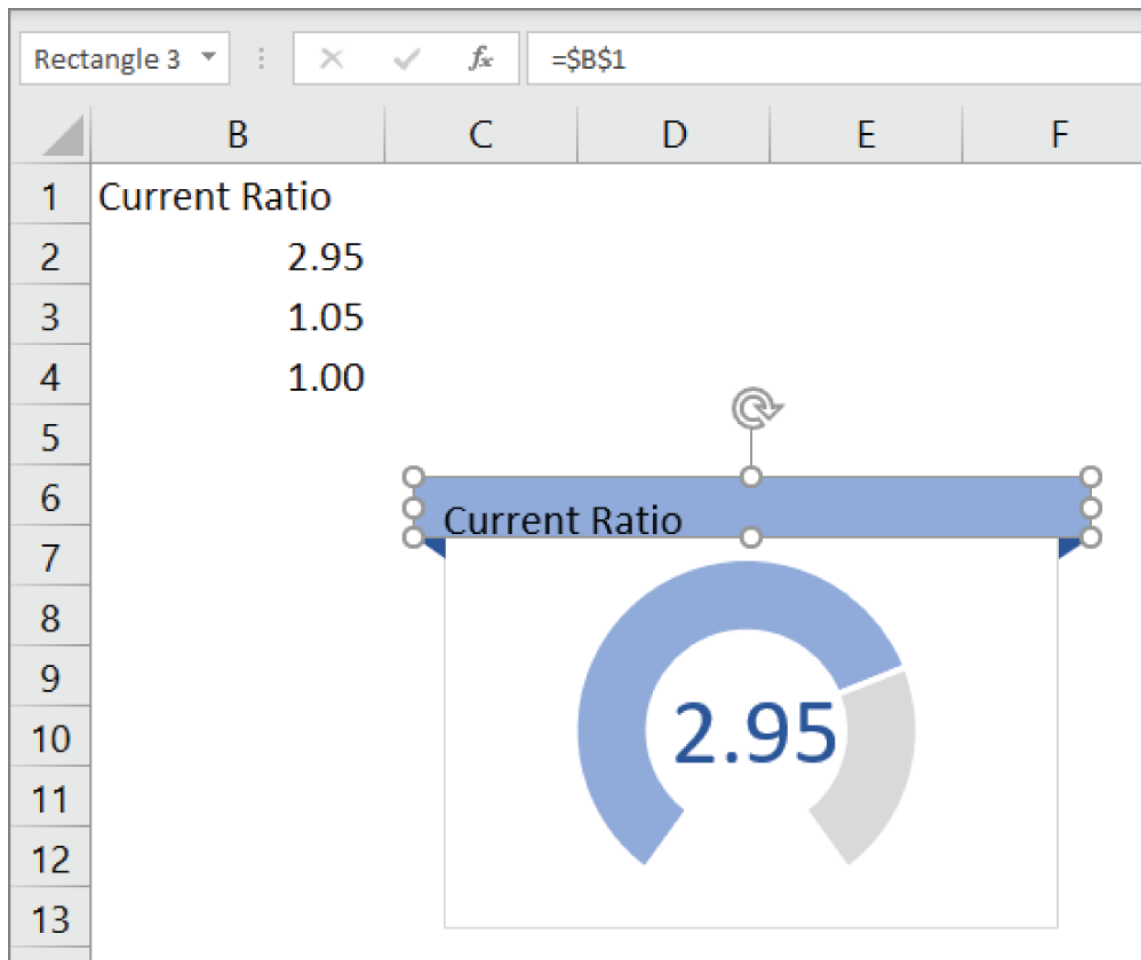

Figure 6.13: Use a formula to show text in a shape.
13. Select the rectangle and enter `=B1` in the formula bar, as shown in Figure 6.13.